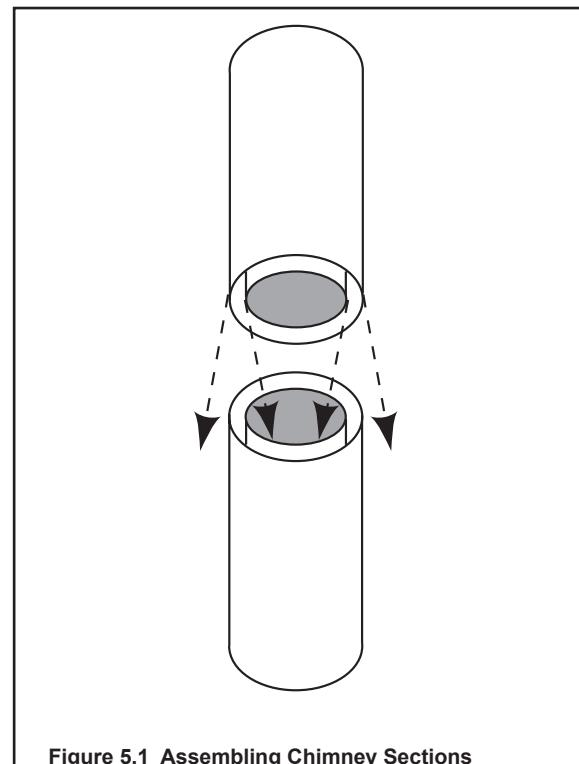

Figure 5.1 Assembling Chimney Sections
- Place inner flue to the inside of the chimney section below it. Place the outer casing outside the outer casing of the chimney section below it. Refer to Figure 5.1.
- Measure how far the chimney needs to be shifted to enable it to avoid the overhead obstacle. See Figure 5.1. Use dimension "A" to determine chimney section required to achieve the needed shift.